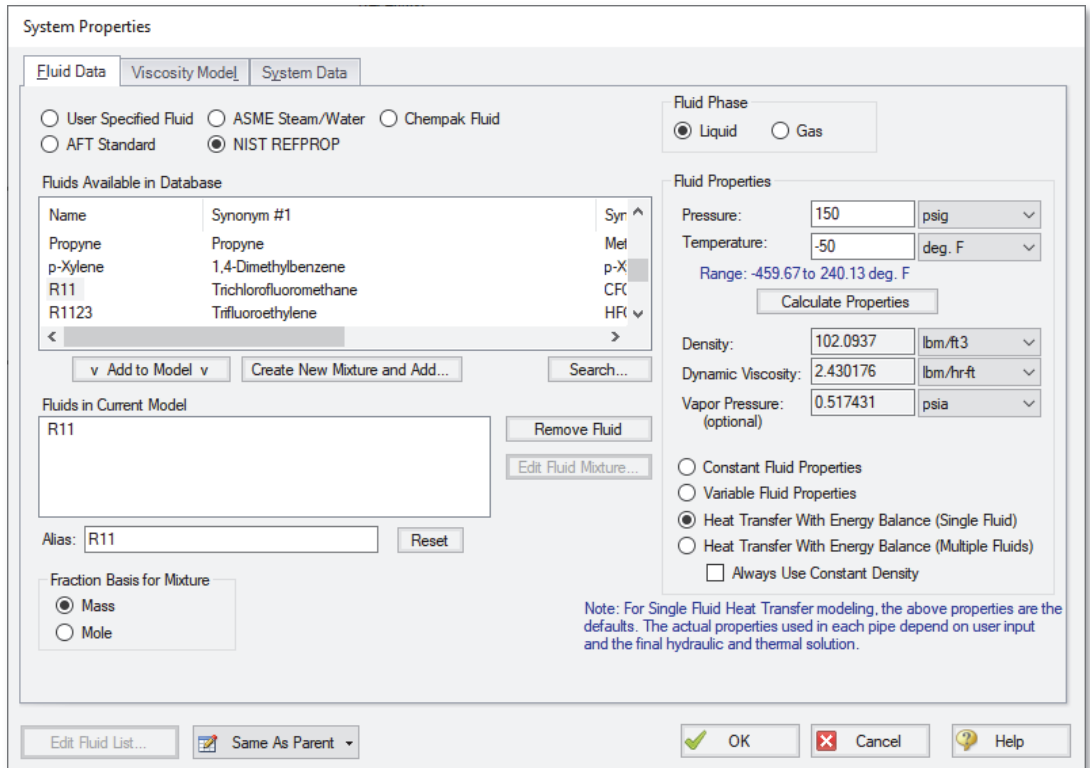

Figure 4.1 System Properties window with R11 selected and the “Heat Transfer with Energy Balance (Single Fluid)” selected
1. Open the System Properties window by selecting System Properties in the Analysis menu (see Figure 4.1).